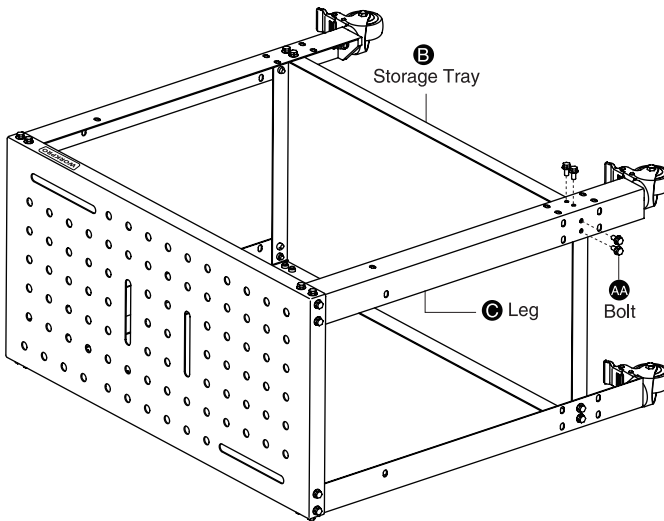

Fig. 3
- Place the storage tray (B) in the middle of the four legs (C), securing with twelve M8 x 15mm hexagonal head bolts (AA), and finger tighten to desired tightness (Fig. 3).
- Step down the levers to lock the swivel casters with brakes (F).
- Attach the storage tray (B) to legs using another four M8 x 15mm hexagonal head bolts (AA), and finger tighten to desired tightness.